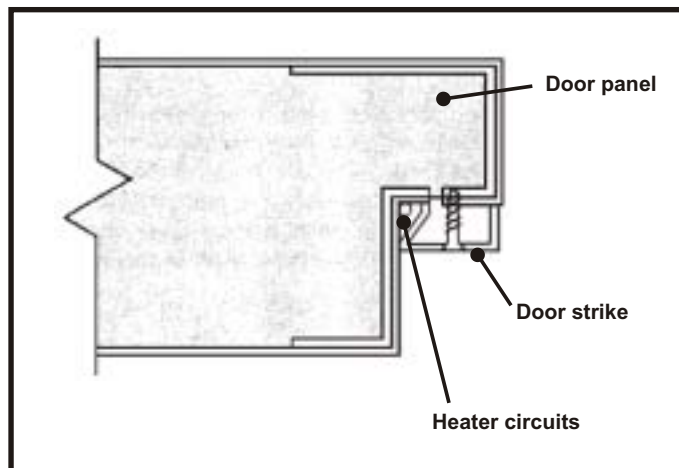

Fig. 14
- C. Remove the screws from the door strikes around the door frame. Remove the strikes. See Fig. 14.